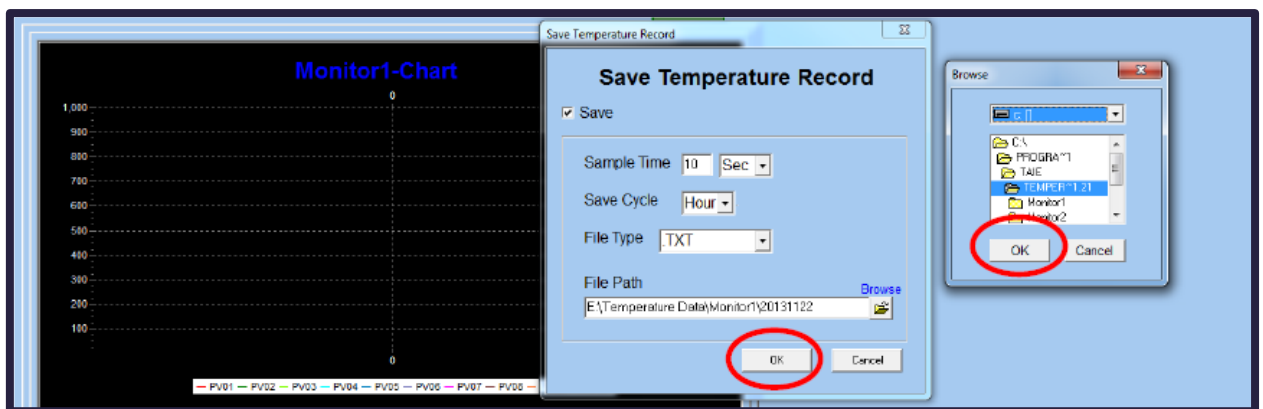

Figure. 25
16. Enter the desired “File Path” by clicking on “Browse”. Browse window will appear, choose the required destination or create new folder (Figure. 25).